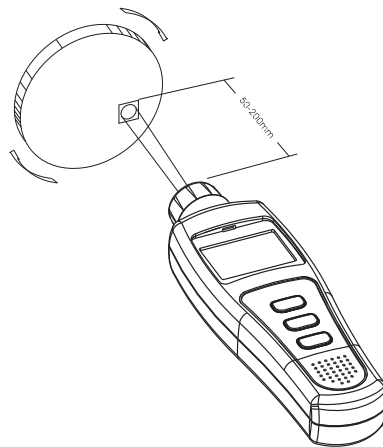

Figure 3
A. RPM Measurement (see figure 3)